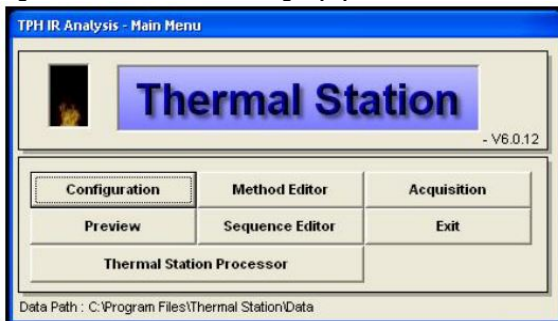

Figure 22. Main Menu Screen.
2. Click Configuration on the Main Menu (*Figure 22*) and then select the **General** tab.